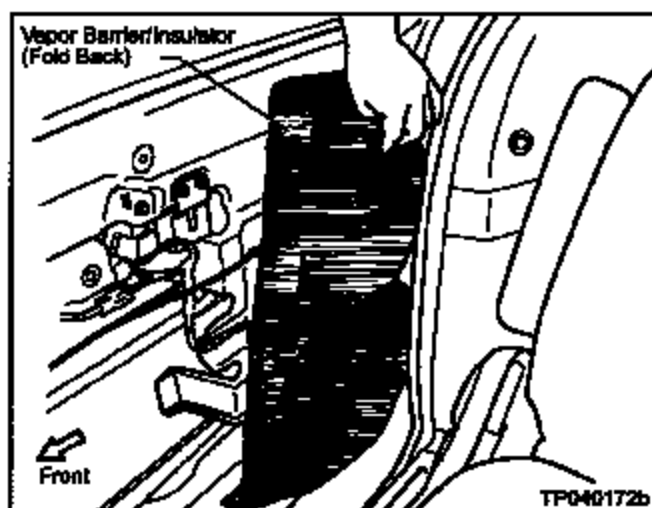

Figure J18
- b. Now, roll the Vapor Barrier/Insulator back and wedge it between the door and the body (see Figure J18).